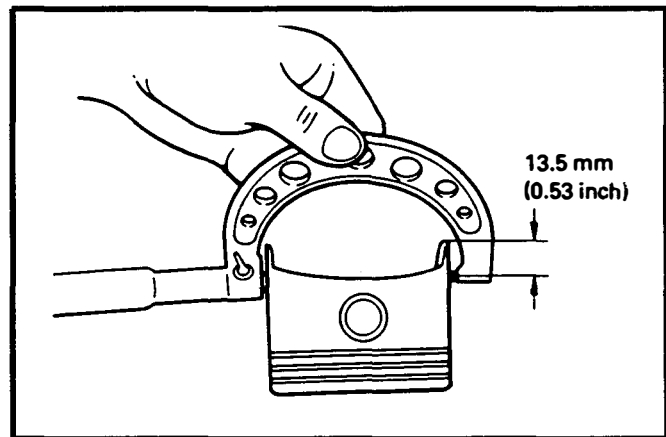

Figure 15.
13. Measure the piston diameter in the thrust direction. Calculate the cylinder-to-piston clearance. See Figure 15.